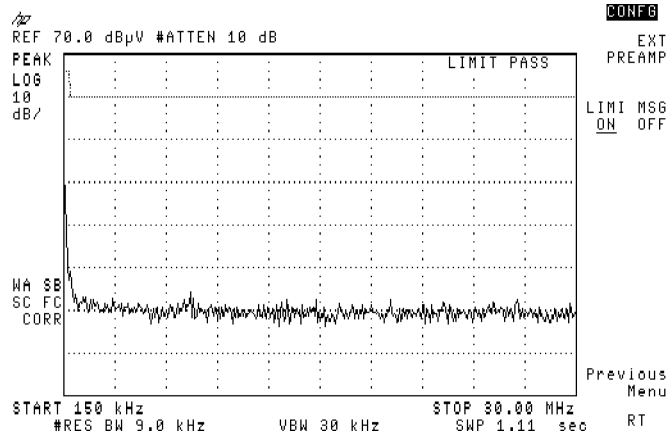

Figure 3-29. Limit-Line Pass/Fail Message
13. Press LIMI MSG ON OFF . (ON will be underlined.) See Figure 3-29.